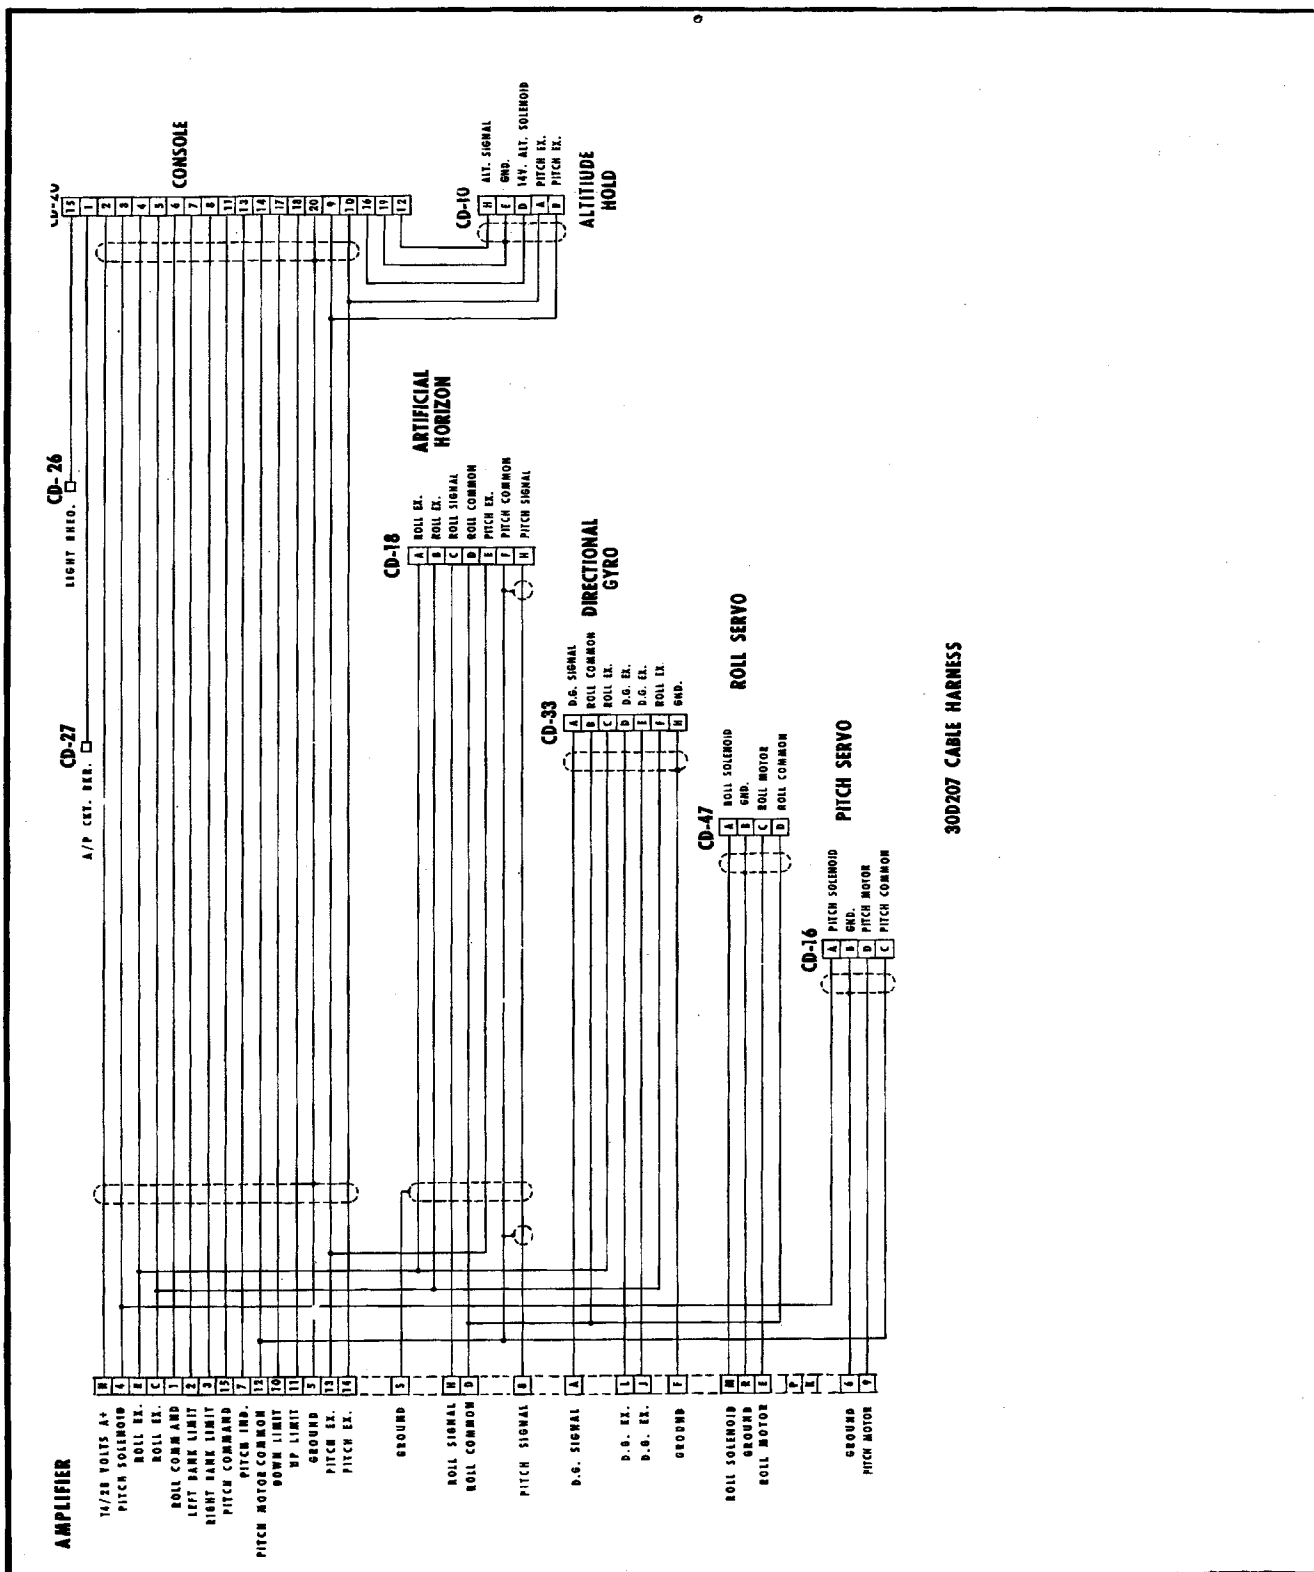

FIGURE 3-7
2. Disconnect CD-20 from rear of console and check for A+ from pin 1 of CD-20 to airframe ground. (Complete wiring schematic is shown in Fig. 3-7.)